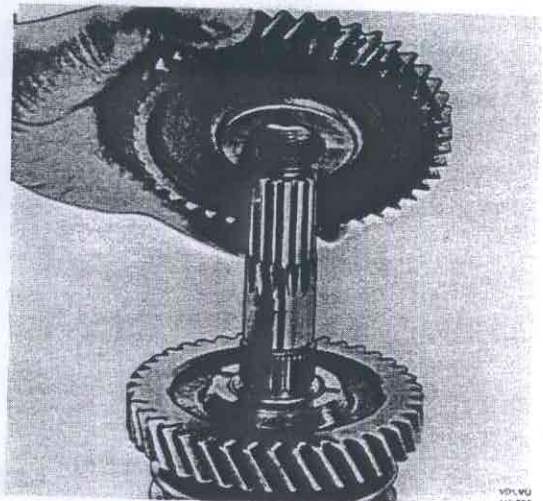
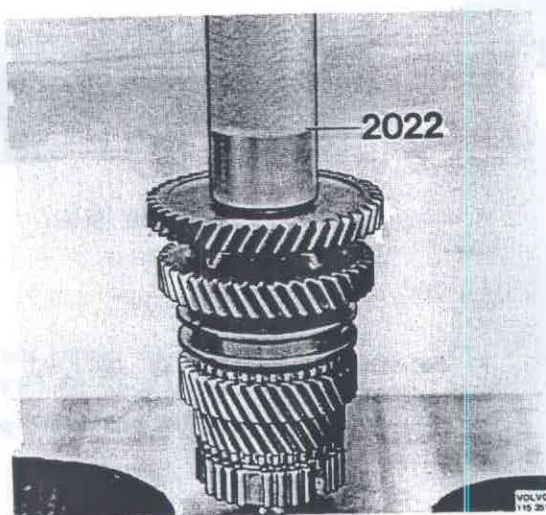

Fig. 43-87. Installing reverse gear
Fig. 43-88. Pressing on gear
8. Oil the needle bearing for 1st gear and fit it. Fit the synchronizing cone and 1st gear. Place the gear for reverse in position, but turn it as shown in Fig. 43-87 with the larger hub section facing 1st gear. Press it on with 2022, Fig. 43-88.